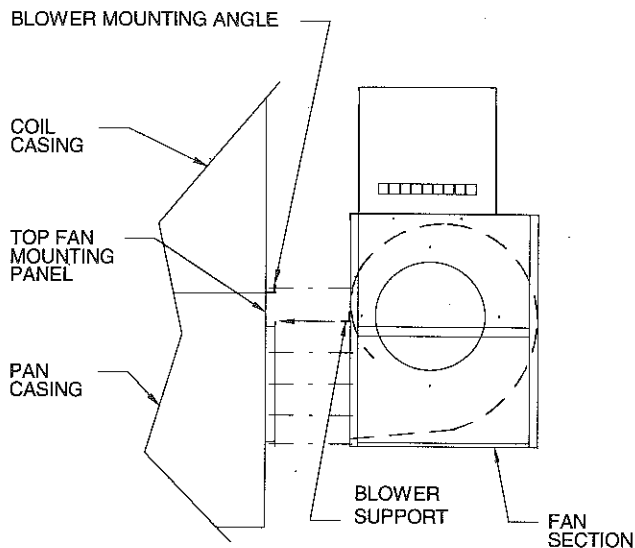

Figure 4b.
3. Lower fan section to pan/coil section unit body so that the blower support on the fan section rests on the flanged edge of the top fan mounting panel on the pan/coil section unit body. Move the fan section to the pan/coil section unit body until all mounting flanges are touching. (Figure 4b)